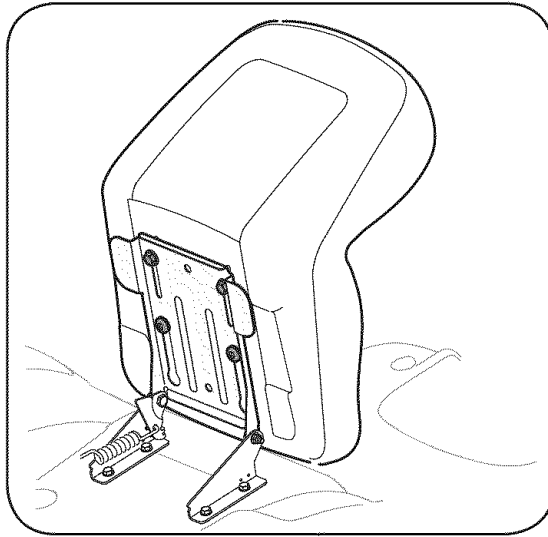
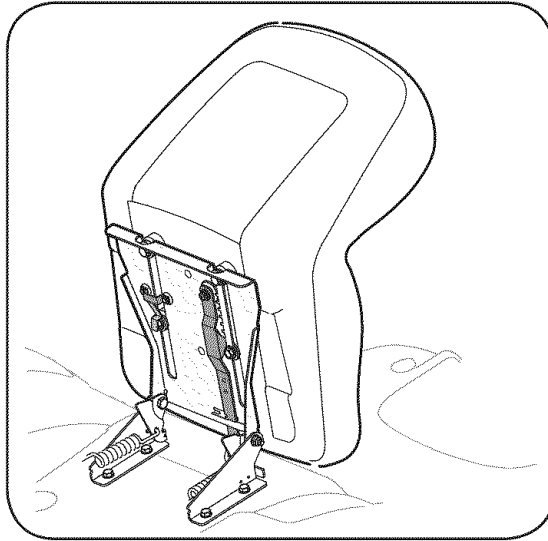
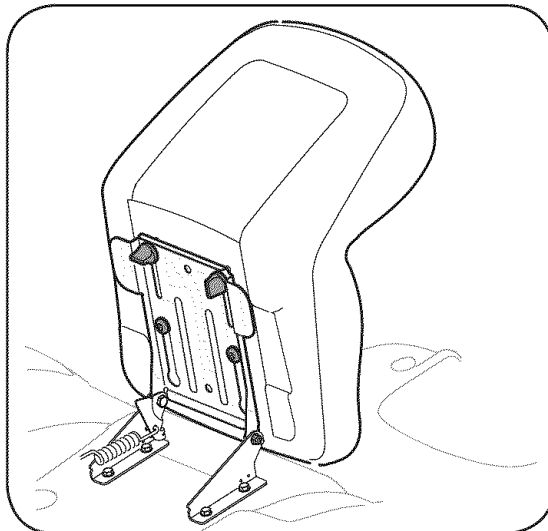

Figure 3-5
Figure 3-6
Figure 3-7
If the seat for your tractor was not attached at the factory, refer to Fig. 3-5, Fig. 3-6, and Fig. 3-7 to identify your tractor's seat style and follow the applicable instructions below to attach it.
1. Position the shoulder screws (found on the base of the seat) inside the slot openings in the seat pivot bracket. See Fig. 3-5.
3. Select desired position for the seat, and secure with the two hex screws removed earlier. See Fig. 3-5.
NOTE: If your seat was shipped mounted backwards on the seat pivot bracket, pull out the tab found on the seat stop and hold it open while sliding the seat off the seat pivot bracket. See Fig. 3-6.
2. Slide seat in until front seat spacer engages the seat stop. See Fig. 3-6.
1. Position the shoulder screws (found on the base of the seat) inside the slot openings in the seat pivot bracket. See Fig. 3-7.
3. Select desired position for the seat, and secure with the two knobs removed earlier. See Fig. 3-7.